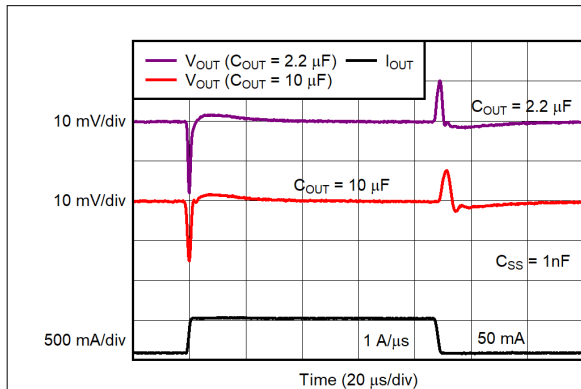

Figure 7-3. Output Load Transient Response
2. Select C_{SS} to be the highest capacitance while still achieving the desired start-up time. Table 7-3 gives examples of this calculation. Figure 7-3 gives examples of turn-on response with different C_{SS} capacitor value.